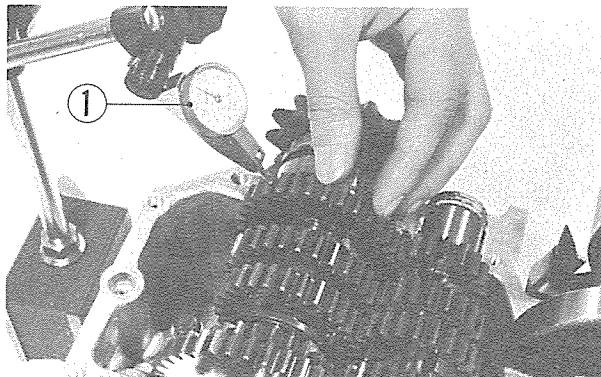

Fig. 3-43
1. Check the gears for backlash as shown in Fig. 3-43.